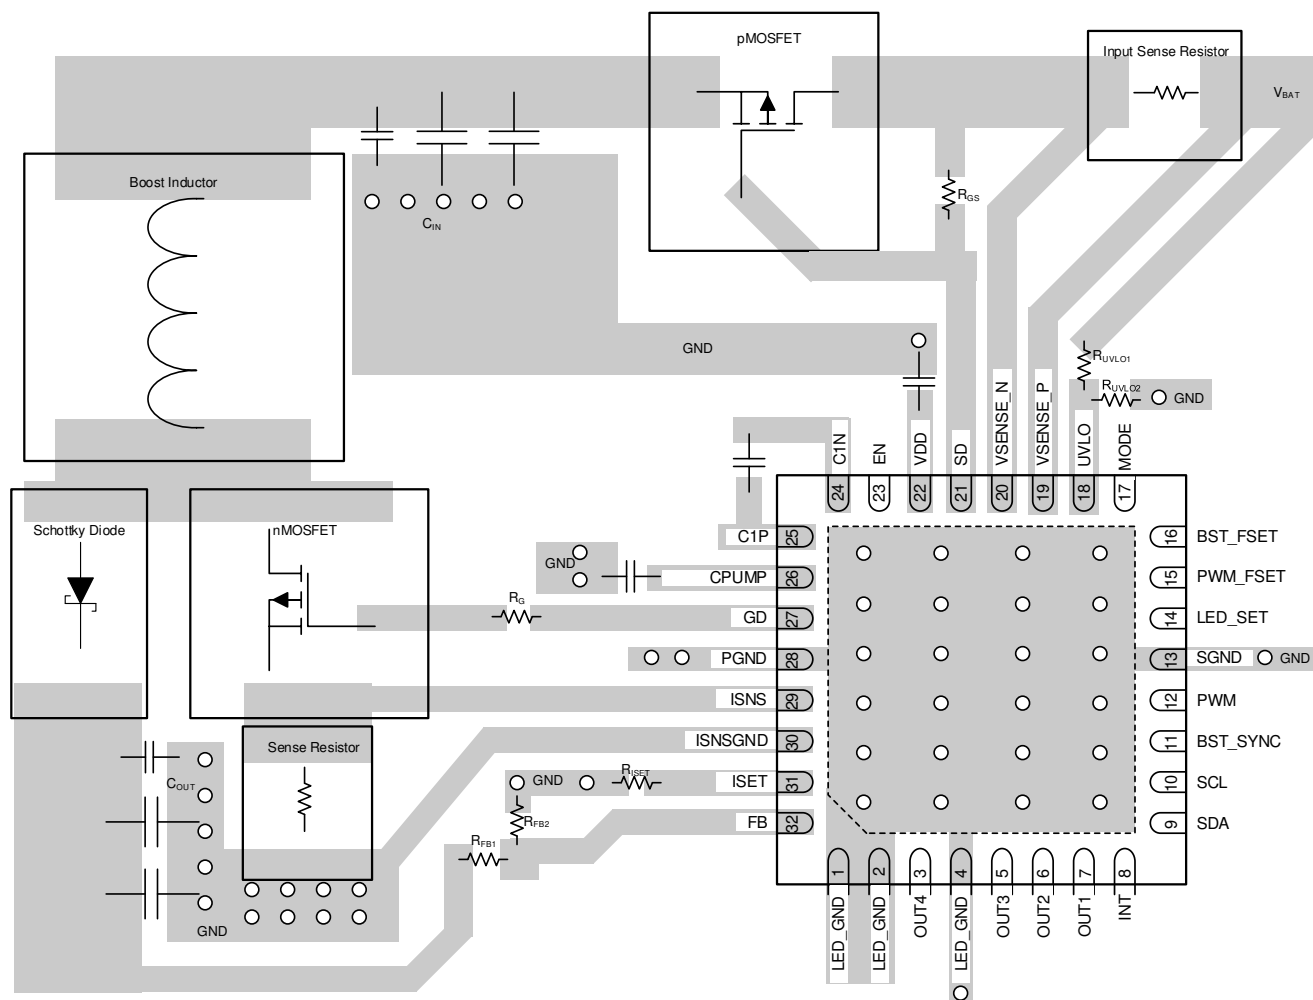

图 8-8. LP8864S-Q1 Layout Guidelines
**图 8-8** shows a layout recommendation for the LP8864S-Q1 used to illustrate the principles of good layout. This layout can be adapted to the actual application layout if and where possible. It is important that all boost components are close to each other and to the chip; the high-current traces must be wide enough. VDD must be as noise-free as possible. Place a V_{DD} bypass capacitor near the VDD and GND pins. A charge-pump capacitor, boost input capacitors, and boost output capacitors must have closest VIAs to GND. Place the charge-pump capacitors close to the device. The main points to guide the PCB layout design: